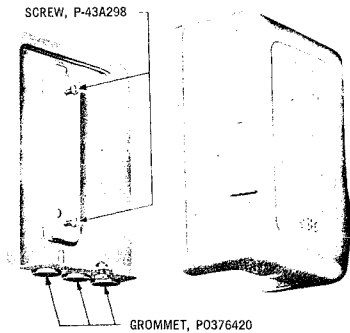

Fig. 7 — 93C Protector Mounting
3.03 93C Protector Mounting (Fig. 7) consists of a metal base and removable metal cover. It is intended to house the 98-type protector for outdoor installation and is furnished with two screws for fastening protector to base. When equipped with a 98-type protector it is coded 1093C.